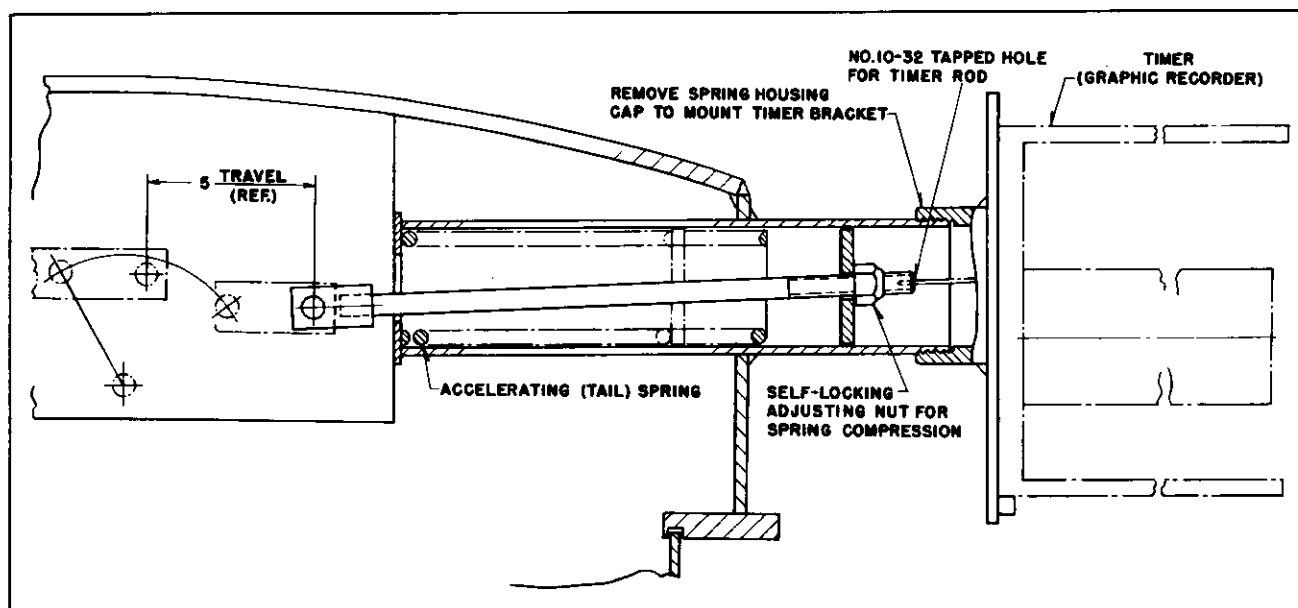

Fig. 2. Tail Spring and Graphic Recorder Mounting
In order to check the breaker timing properly, it is necessary to use a graphic recorder. The instrument most commonly used is the "Cincinnati Timer" made by the Cincinnati Clock and Instrument Co. which may be mounted on the tail spring assembly as shown in Fig. 2. The spring housing cap is removed and replaced with the timer mounting bracket which screws onto the housing. The end of the exposed operating rod is provided with a #10-32 tapped hole for the timer connection. The timer is fastened to the bracket with a pair of heavy C-clamps.
5. An accelerating spring (tail-spring - Fig. 2) which provides the force to open the breaker.
Tail Spring - Fig. 2